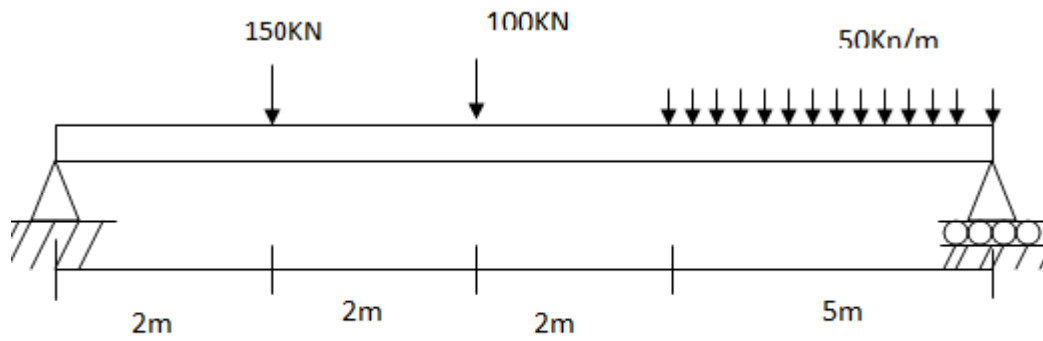

Figure 4
2. Determine the reactions and draw the shear and bending moment diagrams for the beam shown in figure 4 using 3-moment equation (20mks)